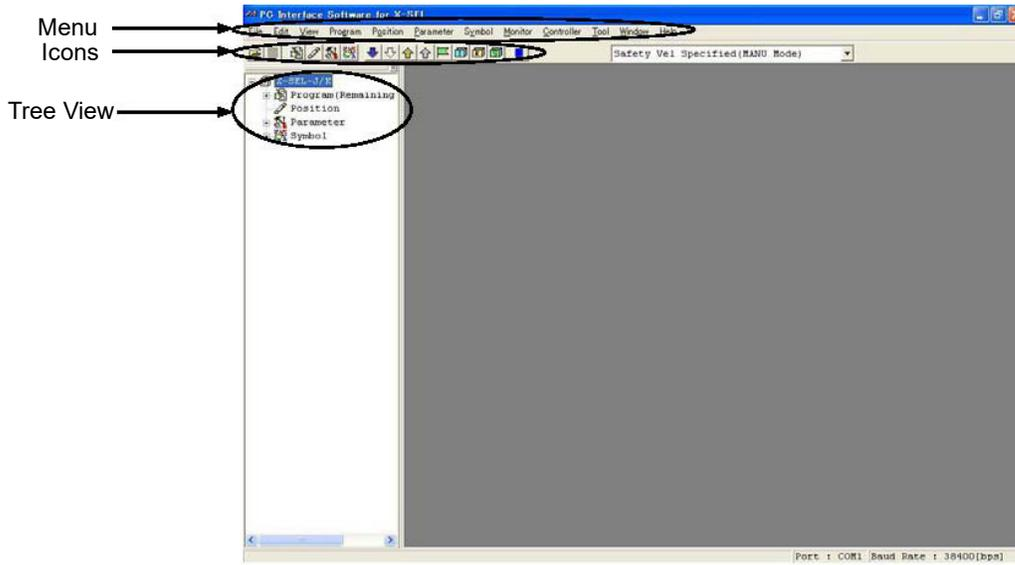

Fig. 3.1 Online Screen (X-SEL-J/K or TT Controller)
(1) X-SEL-J/K or TT controller
When this software has been started, the main window in Fig. 3.1 will open showing the menu items with icons on the tool bar in the case of the X-SEL-J/K or TT controller. The tree view appearing on the left side of the window can be displayed by clicking View (V) from the menu bar and then selecting Tree View (T). (Initial window: Main menu)